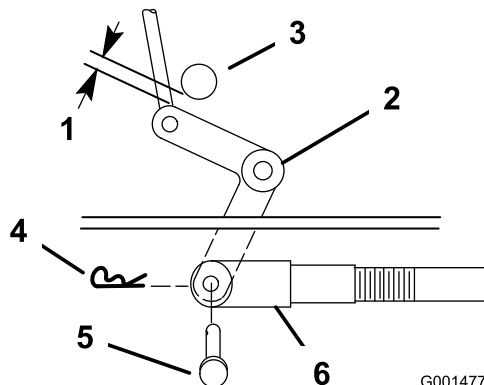
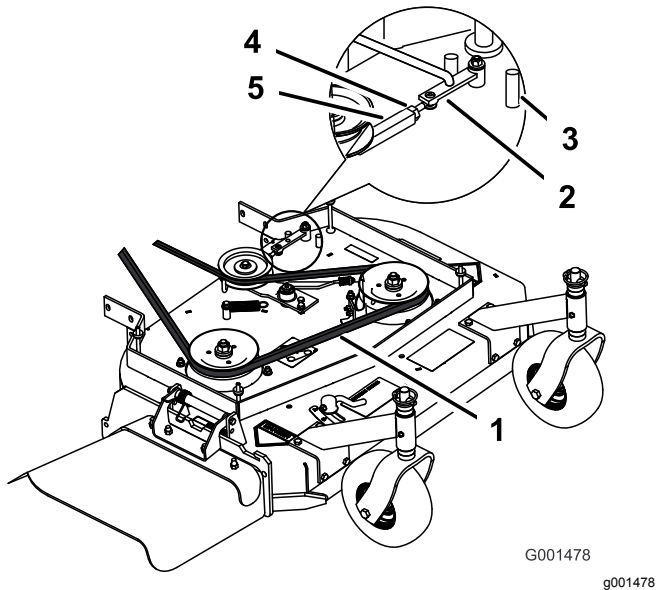

Figure 42
Figure 43
9. Check the clearance between the bell crank and the transmission output shaft (Figure 42).
11. Rotate the clevis clockwise on the rod to increase the clearance; rotate it counterclockwise to decrease it (Figure 42).
Note: If the assist arm does not contact the front stop on the mower deck (Figure 43), adjust the clevis to bring the bell crank closer to the transmission output shaft (Figure 42).